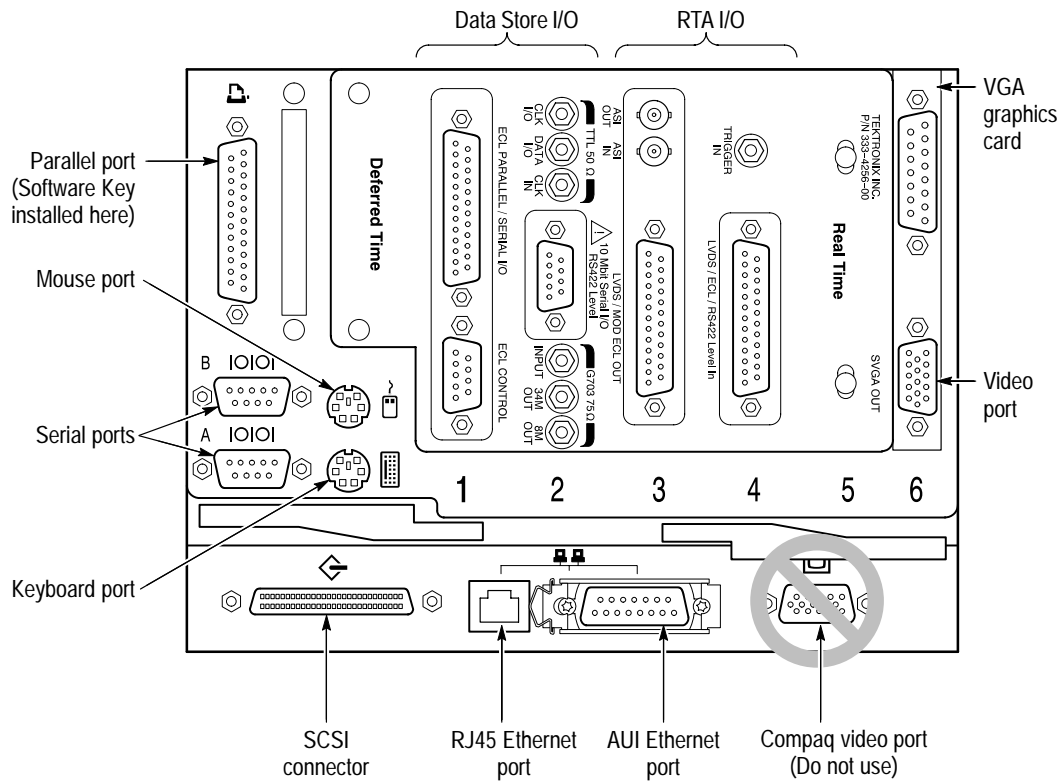

Figure 4: Computer rear view showing input and output connectors. Option SS is not installed.
6. Verify that the Software Key is installed on the rear panel Parallel port. See Figure 4 for port location. MTS 200 Series software applications will not run without the Software Key installed; do not remove or misplace the Software Key.